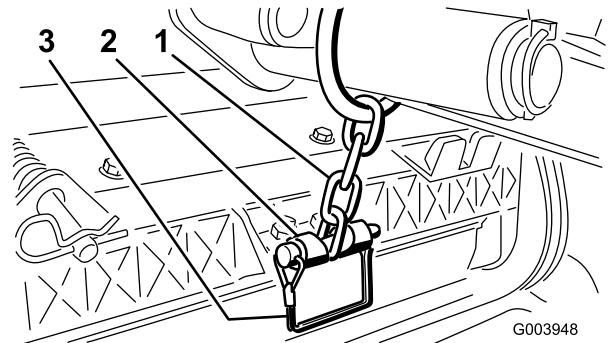

Figure 11
12. Secure the lift arm chain to the chain bracket with the snapper pin (Figure 11). Use the number of chain links described in the cutting unit *Operator's Manual*.